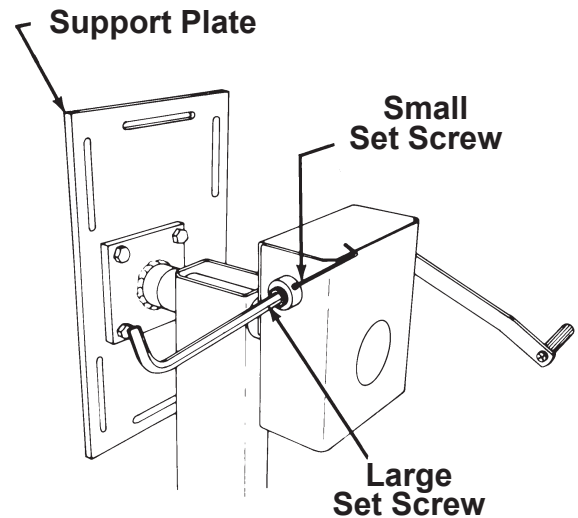

Figure 4
2. Loosen the small socket head set screw (see Figure 4).